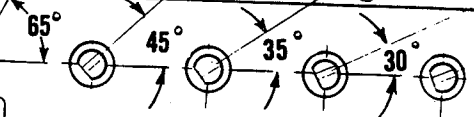
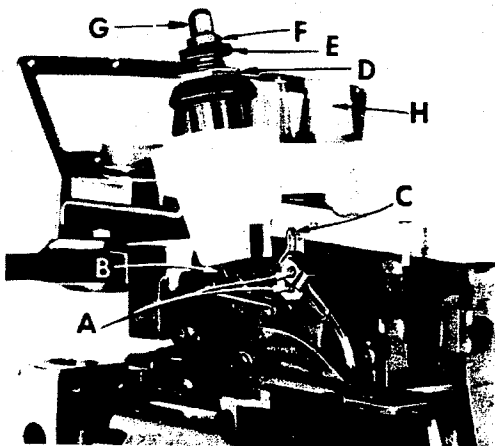
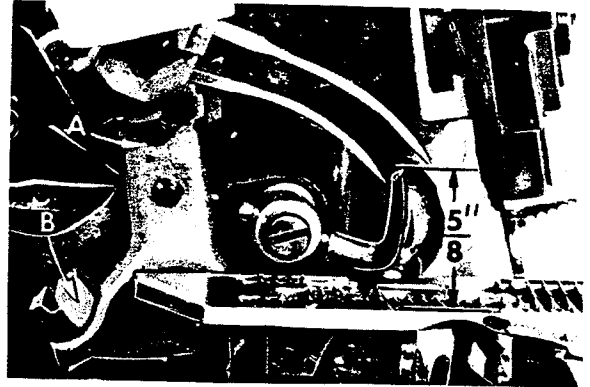

Fig. 1
Fig. 2
Fig. 3
Release pressure on presser foot by turning the presser foot release bushing (A, Fig. 1 or 1A) and swinging presser arm (B) out of position. Turn handwheel in operating direction (away from operator) until needle holding screws (A, Fig. 2) are just exposed from behind presser spring plunger (B) and accessible to screwdriver. Loosen screw and withdraw needle. When replacing needles observe the position of the flat which is at the left of the shank and be sure the needle is inserted the full depth to the combination eyelet and stop plate (C).
Only parts involved in threading are shown in threading diagrams (Fig. 1 and 1A). Parts are placed in their relative positions for clarity.
The amount of tension on the needle and looper threads is regulated by the knurled tension nuts (E, Fig. 1). Tension on the threads should be only enough to secure proper stitch formation. Using a postal scale, the measurements are taken with the needles at the top of their stroke and pulled in the direction as indicated. As a start the tensions for the 515 stitch type may be as follows:
Sufficient pressure to feed work uniformly should be maintained. Should it be necessary to increase or decrease amount of pressure on presser foot loosen lock nut (D, Fig. 2) and turn the adjusting screw (E). Adjusting screw has a right hand thread so tightening increases the pressure, loosening decreases pressure. When pressure adjusting lock screw (E) has been properly set, tighten lock nut (D). With presser foot resting on the throat plate, position locking nut (F) so that its under surface is approximately 1/32 inch to 1/16 inch from the top surface of adjusting screw (E). Set the cap (G) against the locking nut (F).
Release the pressure on presser arm and swing arm out of position. Insert both needles (Type 161 GS for the 401 stitch and Type 154 GAS for the overedge stitch) into the left and right holes, respectively, of the needle driving arm (A, Fig. 3), so that the butt ends contact the needle driving arm thread eyelet (C, Fig. 2). Secure needles in this position with clamp screws (A, Fig. 2).
With the throat plate assembled in position, the needles should center in the throat plate needle holes. To align the needles, loosen clamp screw (B, Fig. 3) and reposition the needle driving arm to the right or left as required. The height of the needle driving arm is correct when the point of the left needle is $\frac{5}{8}$ inch above the throat plate (Fig. 3) when at the top of its stroke. Tighten clamp screw (B) after correct height has been obtained and needles have been centered in the throat plate needle holes. Remove throat plate
For convenience the looper may now be threaded as shown in (Fig. 1 or 1A) and as described under paragraph "To Thread 401 Looper". Replace differential feed dog, throat plate, lower knife holder and reset upper knife. Check cutting action with thread.